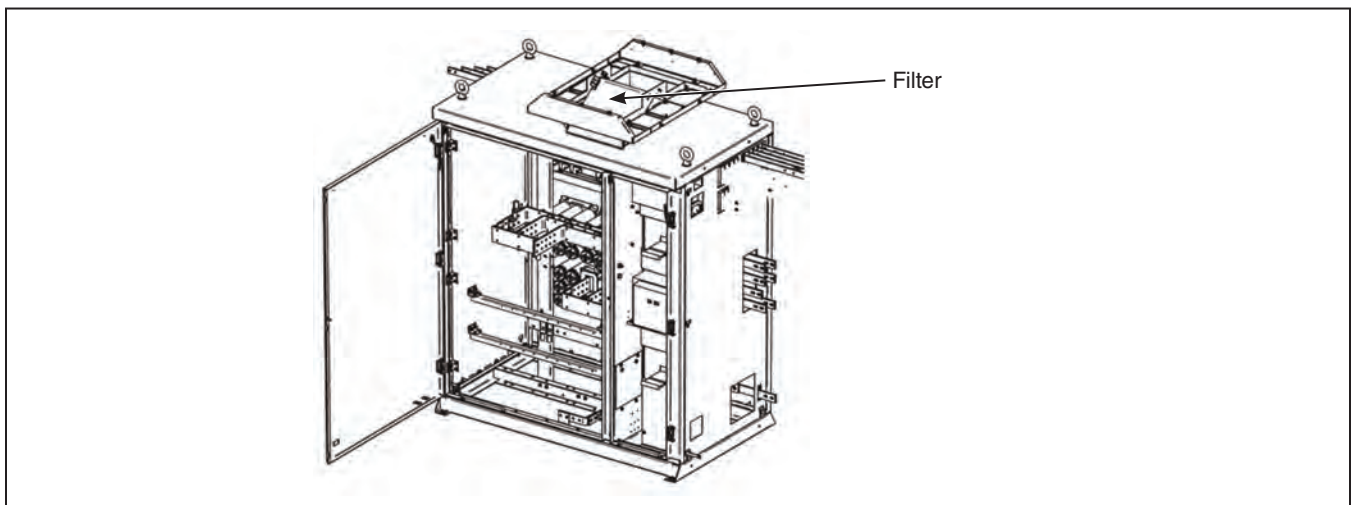

Figure 28. Location of the air-inlet vent filter.
- Inspect the air-inlet filter for debris and obstructions that can cause air-flow restrictions. The filter can be replaced by unbolting the top of the air-inlet vent hood with a wrench and screwdriver. When the hood is opened, the filter must be bent into place and secured by the clips provided. The white part of the filter should face up and the pink part of the filter should face down into the switchgear bay. See Figure 28.